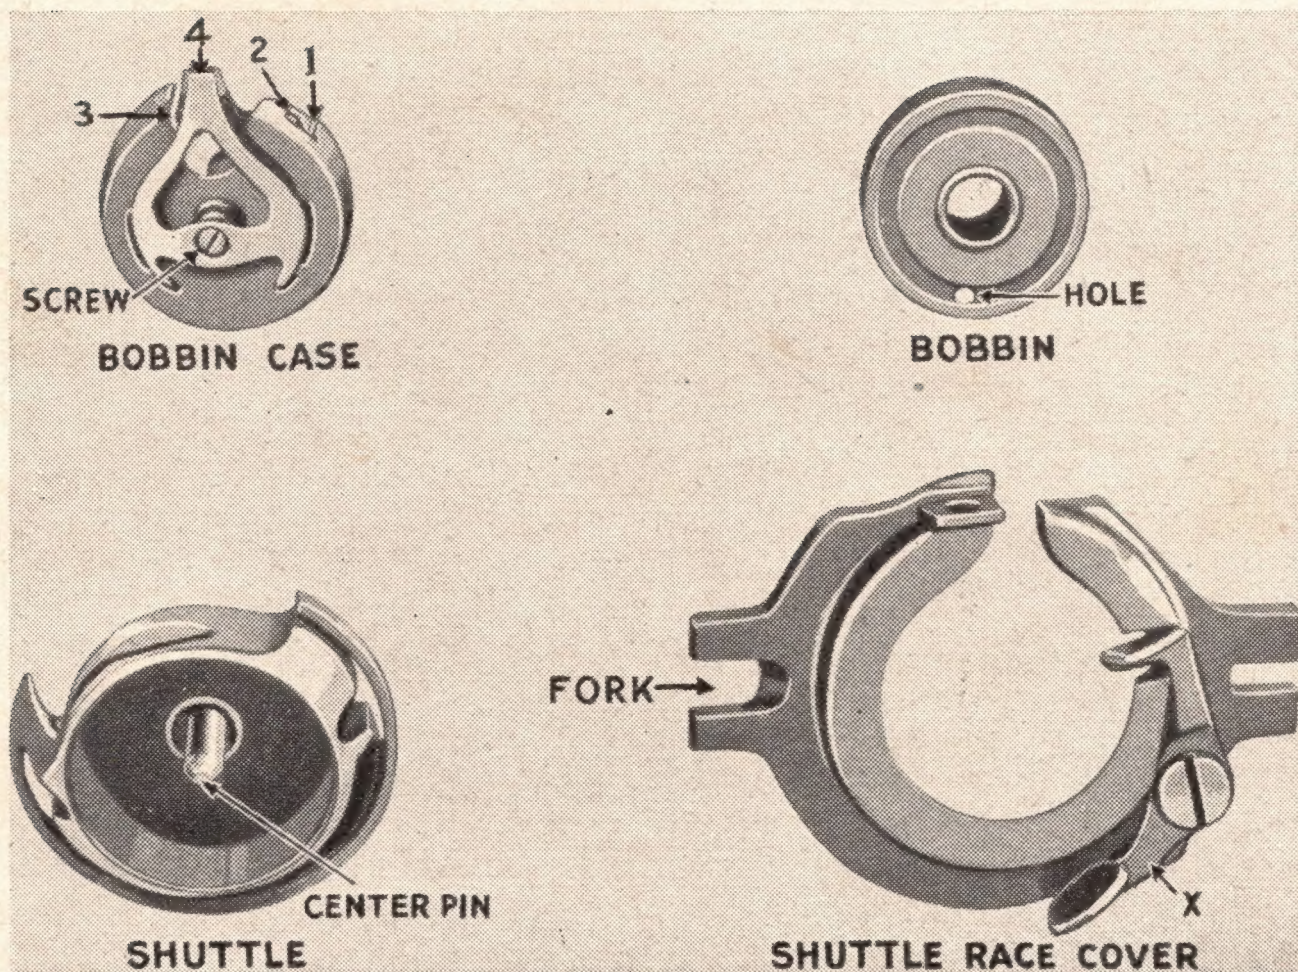
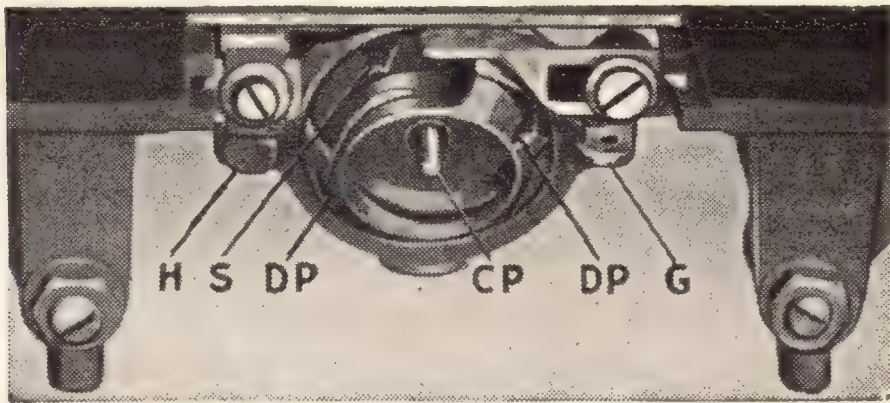

Figure 6
Figure 8
Occasionally place one drop of oil on tip of finger and apply around outer rim of shuttle, race, and center pin (C.P.) fig. 6.
The hole in the center spindle inside the bobbin case fits over the center pin of the shuttle, as shown in Fig. 6.
First remove the hand hole cover plate and tip head back on its hinges. *Next*, remove bobbin case as already explained. *Next*, turn the hand wheel (clockwise) until the point of the needle is just entering needle plate hole. Then press rear end of latch G, shown in Fig. 8. This will release the shuttle race cover (Fig. 6) so it may be readily removed from under pin H. *Next*, take hold of the center pin in shuttle (CP, Fig. 8) and it can be readily removed **WITHOUT FORCE**.
Turn the hand wheel until the point of the needle is just entering the needle plate hole. With the thumb and first finger of the left hand, hold the shuttle by the center pin (CP, Fig. 8) so the centers of the slotted holes directly opposite each other in the outer edge of the shuttle, are exactly in line with the driving pins (DP). When properly lined up, the **SHARP** point of shuttle will be almost directly over the tail of the arrow (S). It is imperative that the shuttle be properly placed in the race, and it must never be **FORCED** into position. When the shuttle is in position replace shuttle race cover by slipping the fork at left side under pin (H) and push right side back over latch (G) which will snap back to its holding position.
The small screw in center of the bobbin case (Fig. 6) regulates the tension on the lower thread. To *increase* tension tighten the screw; to *decrease* tension, loosen it. In either event only turn this screw a little bit at a time.